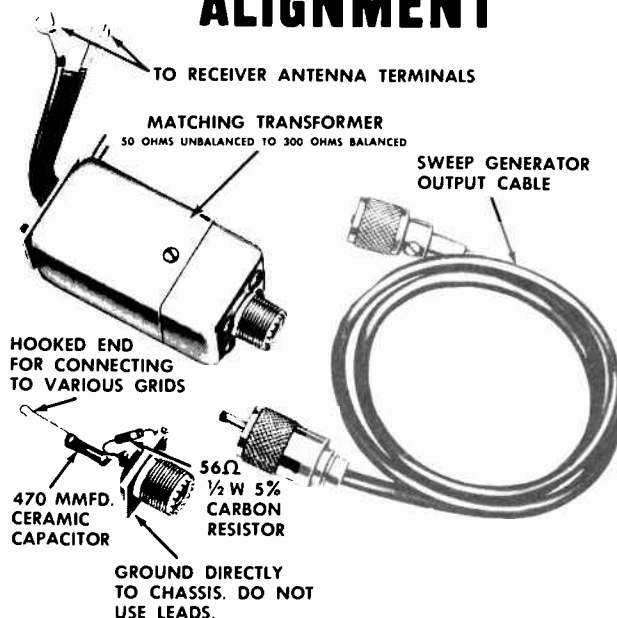
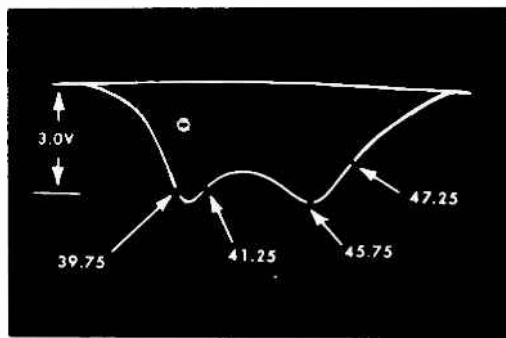

Fig. 4 IF-RF Alignment Fixtures
Fig. 5 4th IF Response
3. Feed the sweep generator through the special terminating network shown in Fig. 4 to point "G" (Pin 1 of the 3rd IF). Adjust generator to obtain a response similar to Fig. 5 with a detector output of 3 volts peak to peak. Do not exceed this level during any of the adjustments.
4. Set the marker generator to 45.75 Mc and alternately adjust the top and bottom cores of the 4th IF for maximum gain and symmetry with the 45.75 Mc marker positioned as shown in Fig. 5. The two peaks must be equal in height and the high frequency peak
3. Feed the sweep generator through the special terminating network as shown in Fig. 4 to point "G" (Pin 1 of the 3rd IF). Adjust generator to obtain a response similar to Fig. 12. Do not exceed the 3 volt peak to peak detector output during any of the following adjustments.